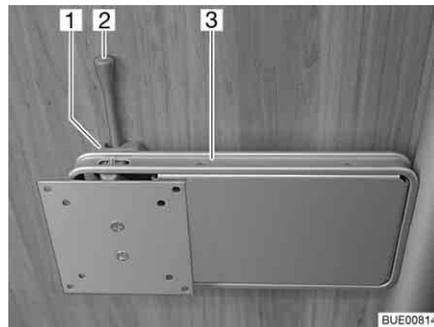

Fig. 84 Holder on the column
- Push the release lever (Fig. 84,2) to the side and turn the holder (Fig. 84,3) with the flat screen to the desired position.
- Turn flat screen back until the holder (Fig. 84,3) engages in the lock (Fig. 84,1).